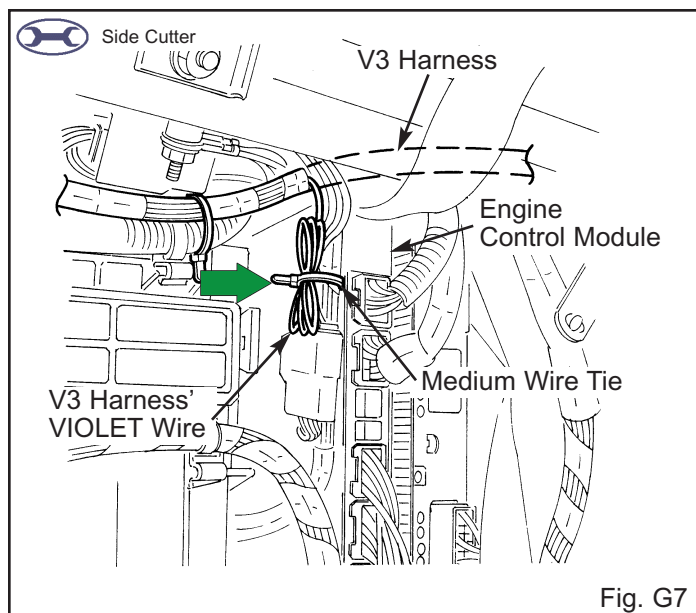

Fig. G7
- ➔ 12. Bundle and secure the unused V3 harness VIOLET wire to the vehicle's harness with one medium wire tie. (Fig. G7)